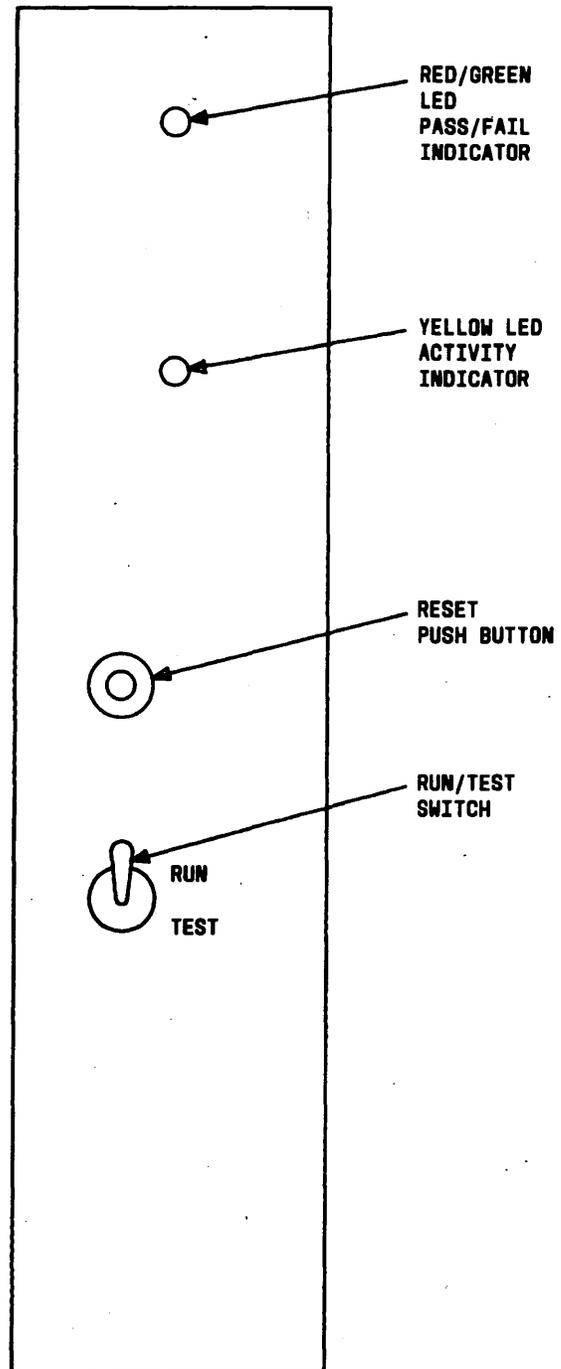

Fig. 6—DCO-PNI Board Front Panel
1. Place the toggle switch located on the front panel of the card in the "down" or "test" position. (See Fig. 6.) Perform this step for each circuit board in the DCO-PNI.
3. Place the toggle switch in the up position. Press the RESET button. The card is now ready for operation. During normal operation, the yellow LED (Fig. 6) flashes each time a packet is transferred to the backplane bus.